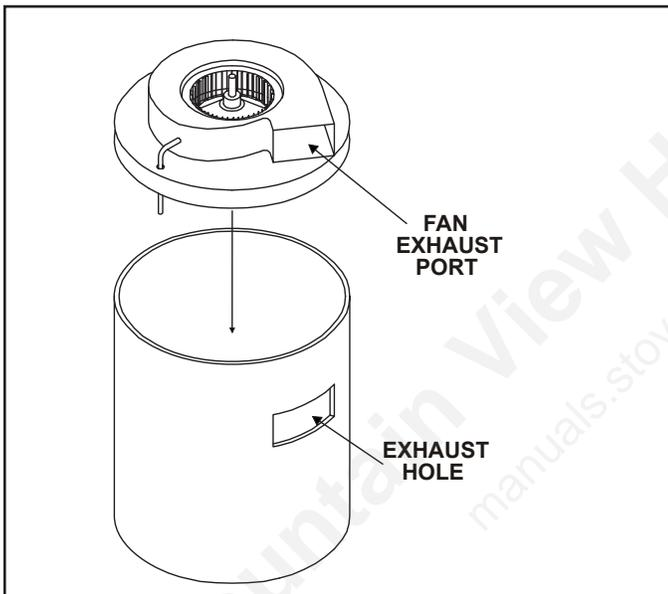

Figure 4.45
A. Slide the fan assembly into the 10-1/2" diameter collar, making sure that the exhaust port on the fan assembly lines up with the exhaust hole cut in the 10-1/2" diameter collar. See Figure 4.45.